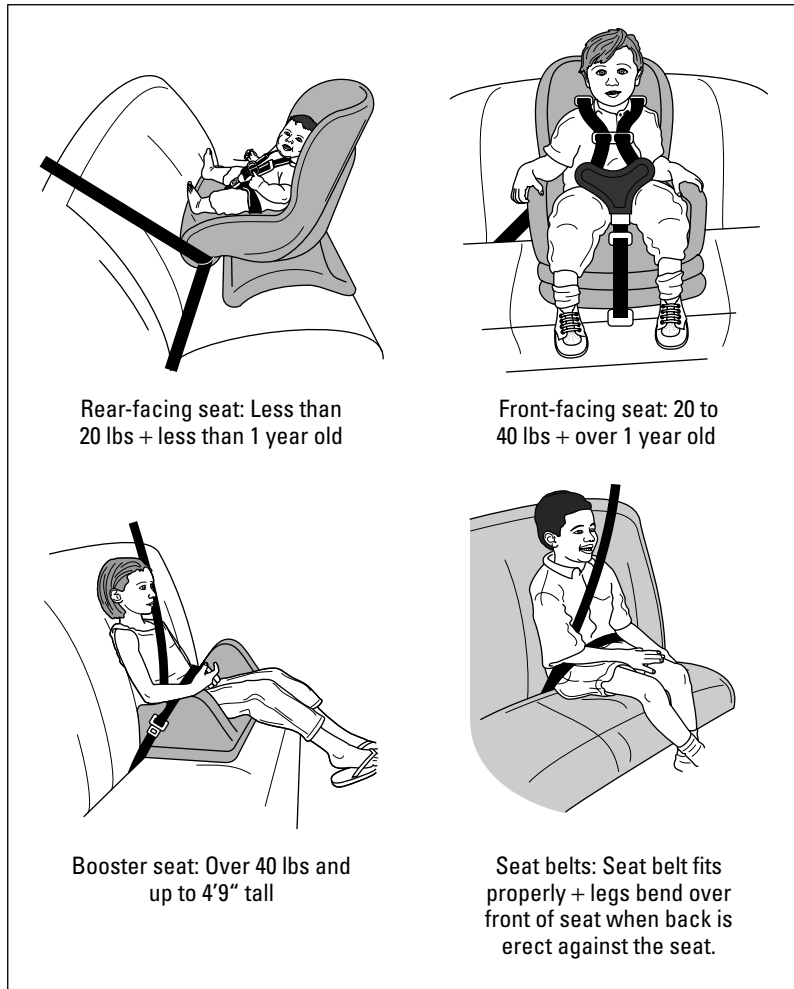

Figure 19-4: Seating children safely.
Even with all the publicity, the sad fact is that many parents remain ignorant about the proper way to seat their children in a vehicle, and research has found that thousands of child safety seats are improperly installed. *No single seat can carry a child safely from infancy through childhood* and children need special seating much longer than many would assume. Figure 19-4 shows you the four steps and types of seats that are necessary to seat a child safely at different stages of growth.
Here are *NHTSA*'s recommendations for insuring that your children will have the best chance to travel safely on the road at each stage of their growth and development (refer to Figure 19-4):
- ✔ **Children are ready to get out of a booster seat and just use the vehicle's seat belt when the following conditions are present:** Both the lower and upper belts fit properly (see the preceding booster seats bullet) and their legs are able to bend at the knees against the edge of the seat when they sit up straight against the seat back without slouching. Figure 19-4 shows you what that placement should look like.